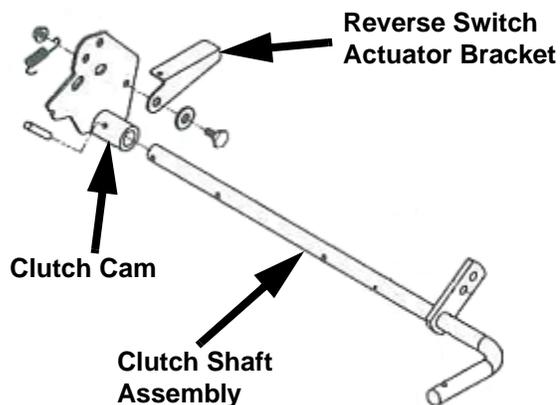
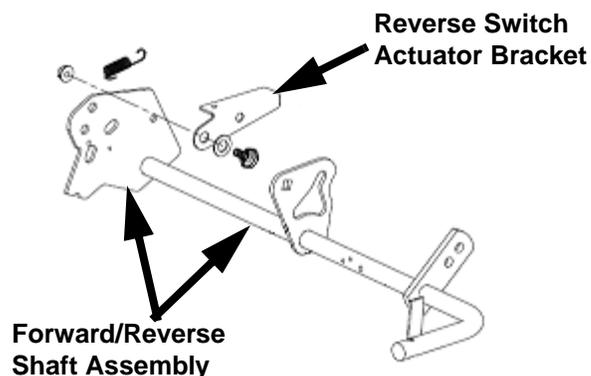

FIGURE 2
FIGURE 3
5. Locate the reverse switch actuator mounted to the forward/reverse shaft assembly/clutch cam. **NOTE:** Figure 2 shows the clutch cam configuration used for serial numbers 239,301 through 324,500. Figure 3 shows the forward/reverse shaft assembly configuration for Serial Numbers 324,501 through 359,000.